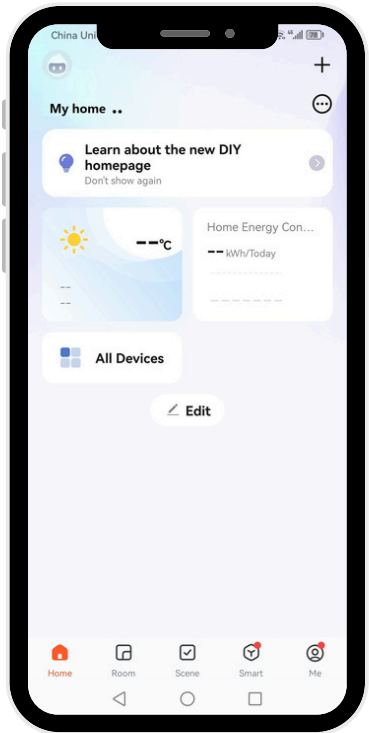
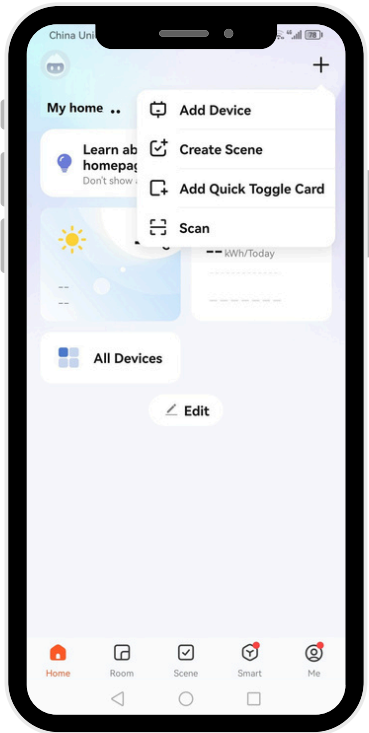

Figure 1
Figure 2
- Step 3:** Open the "tuya" APP, click "+" as shown in Figure 1 and click "Add device" as shown in Figure 2. Then the device search interface will appear.